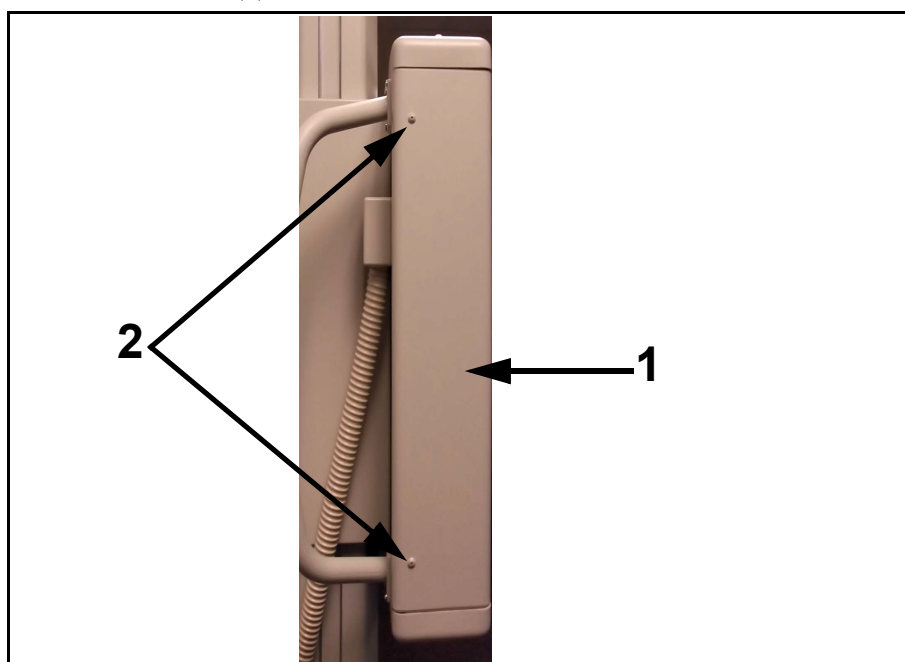

Figure E-20. Side Cover Screws
- 22** Reattach the left side cover (1 in Figure E-20) by mounting the screws on the side cover (2).